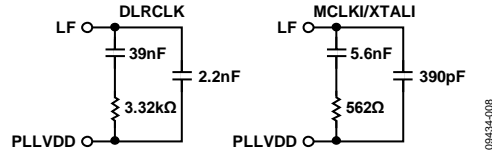
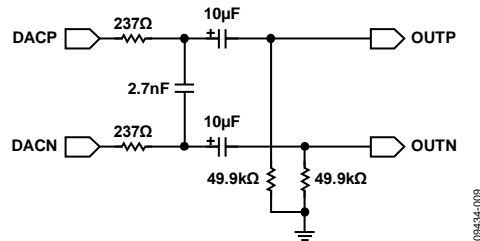
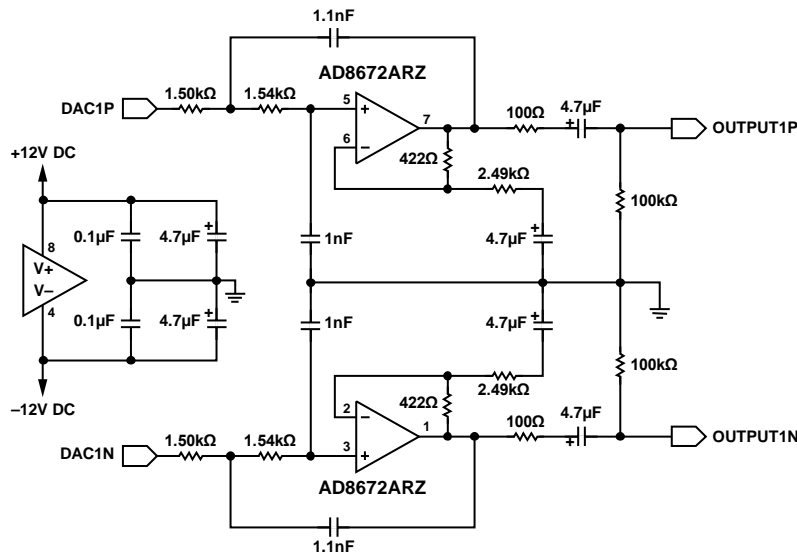
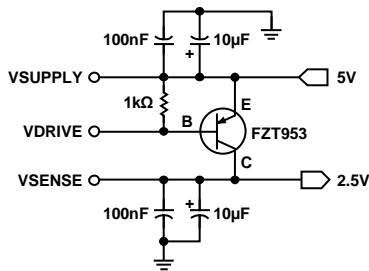

Figure 8. Recommended Loop Filters for DLRCLK or MCLKI/XTALI PLL Reference Modes
Figure 9. Typical DAC Output Passive Filter Circuit (Differential)
Figure 10. Typical DAC Output Active Filter Circuit (Differential)
Figure 11. Recommended 2.5 V Regulator Circuit
Typical application circuits are shown in Figure 8 to Figure 11. Recommended loop filters for DLRCLK and MCLKI/XTALI modes of the PLL reference are shown in Figure 8. Output filters for the DAC outputs are shown in Figure 9 and Figure 10, and an external regulator circuit is shown in Figure 11.
When AVDD is supplied with 5 V, each analog output pin has a nominal common-mode (CM) dc level of 2.25 V and swings ±8.49 V p-p (3 V rms differential) from a 0 dBFS digital input signal. An AVDD of 3.3 V generates a CM dc voltage of 1.5 V and allows differential audio swings of ±5.66 V p-p (2 V rms) from a 0 dBFS digital input signal. The differential analog outputs require only a single-order passive differential RC filter to provide the specified DNR performance; see Figure 9 for an example filter. The outputs can easily drive differential inputs on a separate PCB through cabling as well as differential inputs on the same PCB.
If more signal level is required or if a more robust filter is needed, a single op amp gain stage designed as a second-order, low-pass Bessel filter can be used to remove the high frequency out-of-band noise present on each pin of the differential outputs. The choice of components and design of this circuit is critical to yield the full DNR of the DACs (see the recommended passive and active circuits in Figure 9 and Figure 10). This filter can be built into an active difference amplifier to provide a single-ended output with gain, if necessary. Note that the use of op amps with low slew rate or low bandwidth can cause high frequency noise and tones to fold down into the audio band; exercise care when selecting these components.
The ADAU1966 PLL can also be programmed to run from an external LRCLK. When the PLLIN bits in the PLL_CLK_CTRL0 register are set to 01 and the appropriate loop filter is connected to the LF pin (see Figure 8), the ADAU1966 PLL generates all of the necessary internal clocks for operation with no external MCLK. This mode reduces the number of high frequency signals in the design, reducing EMI emissions.